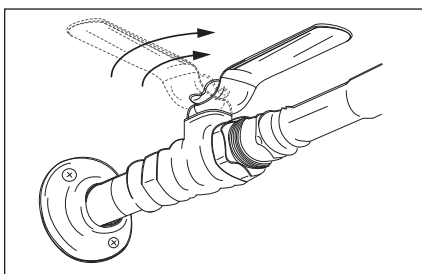

Figure 21 - Fully open the cold water supply valve (full-flow ball valve pictured above).
- 2 Turn the cold water supply back **ON** and ensure any shut-off valves installed on the cold water supply line are open (Figure 21).